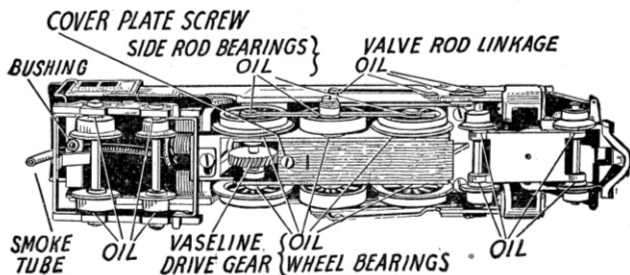

Fig. 38
3. Oil the wheel bearings, the side rod bearings and the valve rod linkages. See Fig. 38.